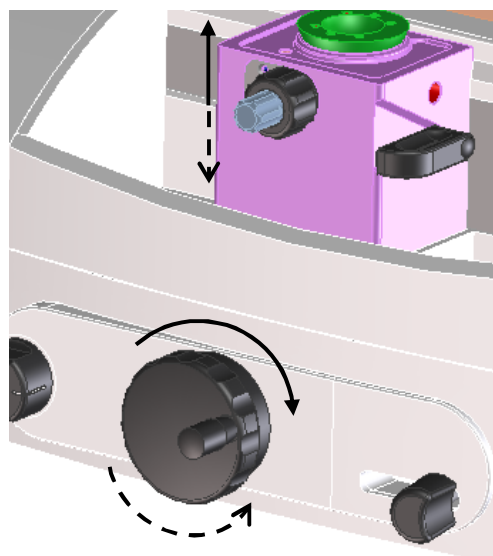

Fig. 4
- The specimen clamping can be moved 40 mm vertically up or downwards via the coarse feed wheel (fig. 4).